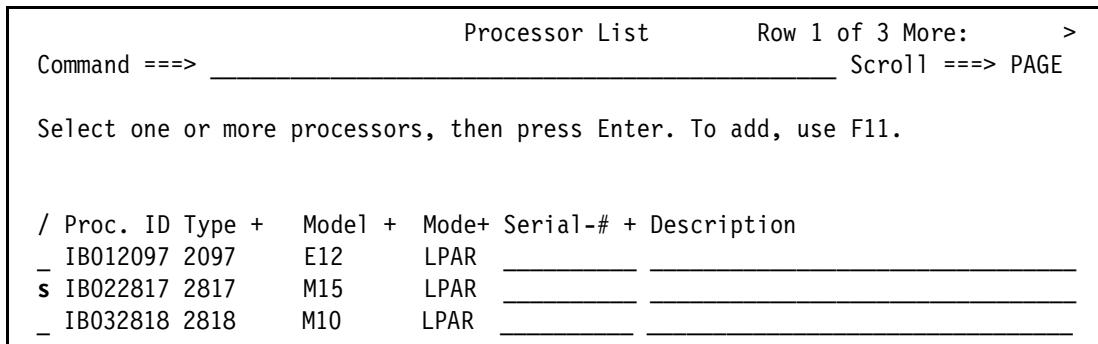

Figure 6-7 HCD Processor List panel
1. From the HCD main menu, select option **1.3** and press Enter. This option takes you to the Processor List panel as shown in Figure 6-7.